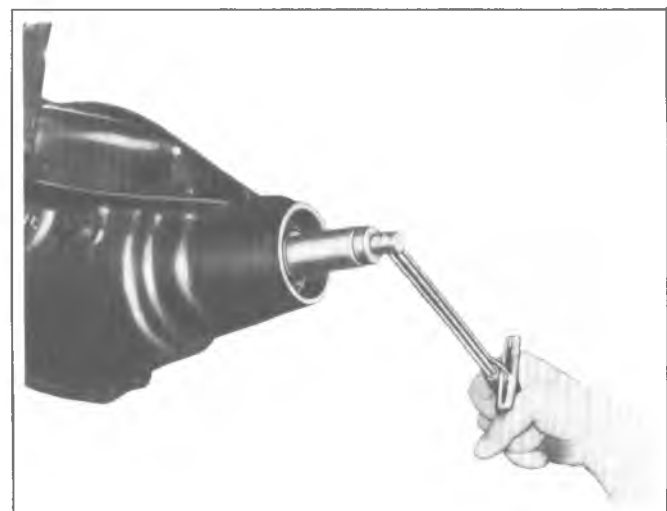

Fig. 19B--Measuring Rotating Torque
4. Hold the preload stud stationary with a wrench on the flats and tighten hex nut. Tighten until 20 in. lbs. of torque are required to rotate the bearings, as shown in figure 19B.